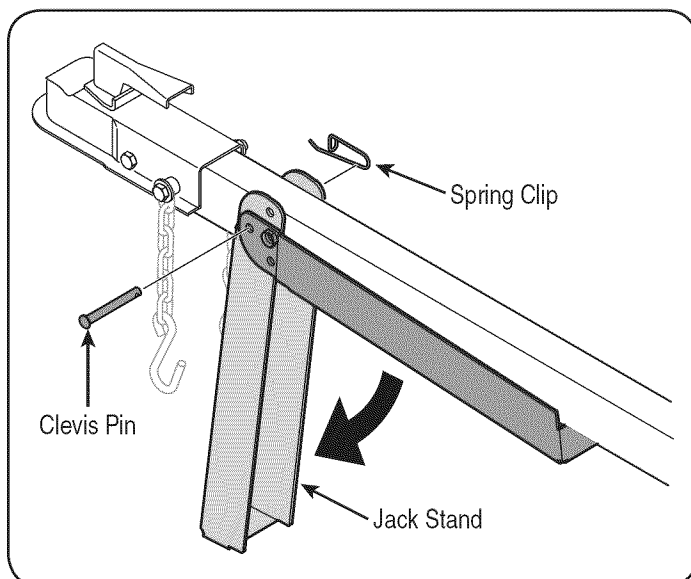

Figure 1
2. Secure the jack stand in position with the clevis pin and spring clip. See Figure 1.